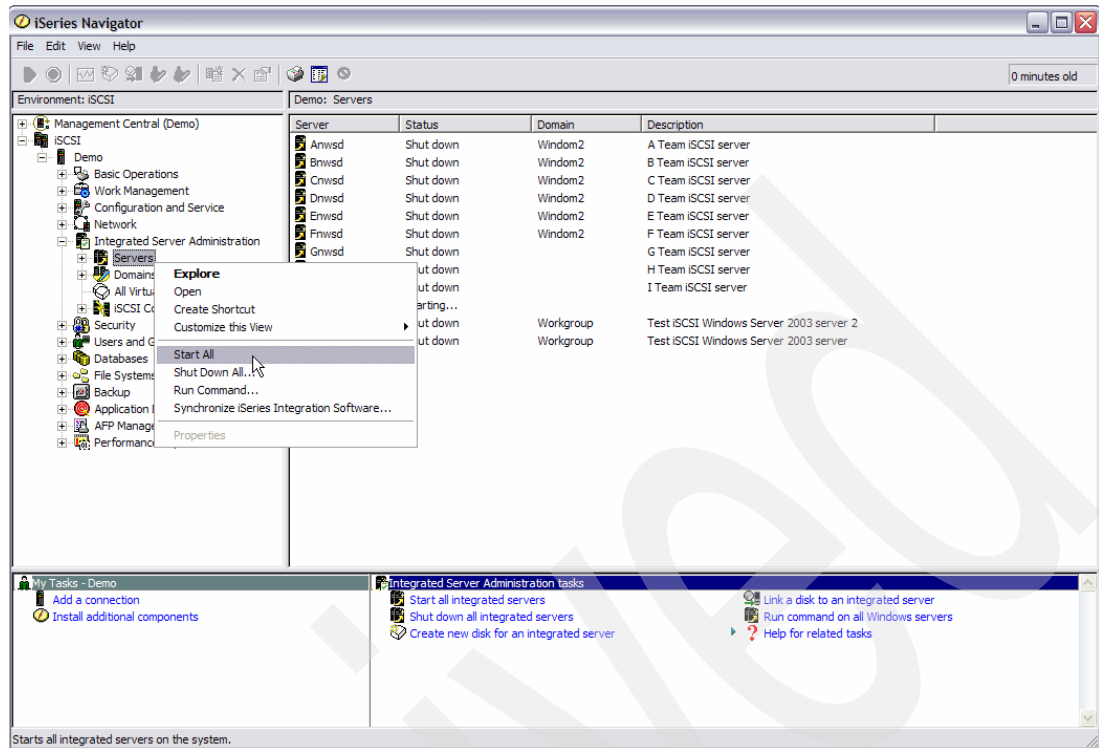

Figure 6-77 Start all integrated servers
1. Expand **YourSystem** → **Integrated Server Administration**. See Figure 6-77 on page 227.